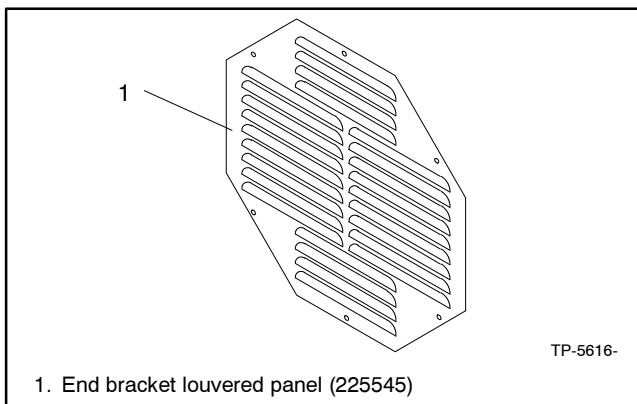

Figure 3 End Bracket Louvered Panel
- 1.6 Remove the end bracket louvered panel (225545). See Figure 3. Save the mounting hardware and louvered panel.